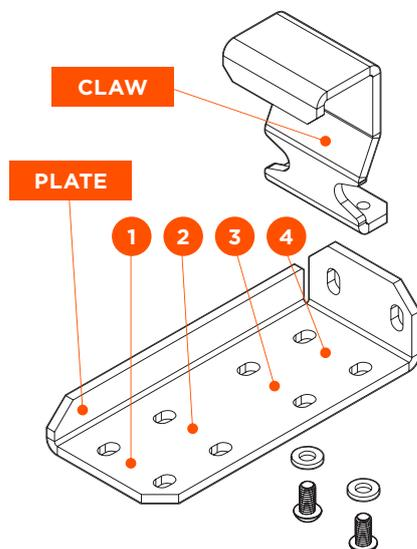

Figure 9.2
- The side panel middle bracket is shown below in Figure 9.2. The claw may be fitted to the plate in one of four positions, depending on the configuration of the bed: